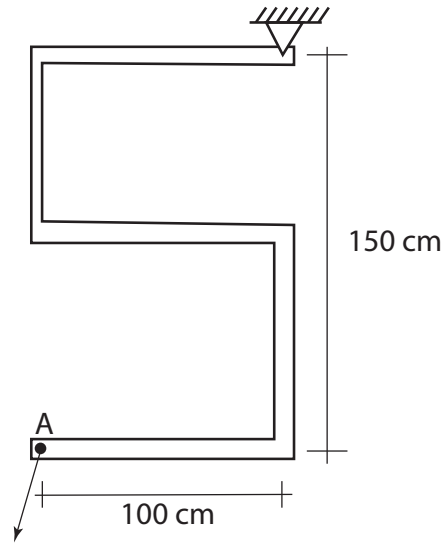

Figure 10: Problem 10.
10. If the magnitude of the support force for the S-bracket in Fig. 10 is 1000 N, what is the vectorial expression for the force at A? Assume that the S-bracket is in static equilibrium.